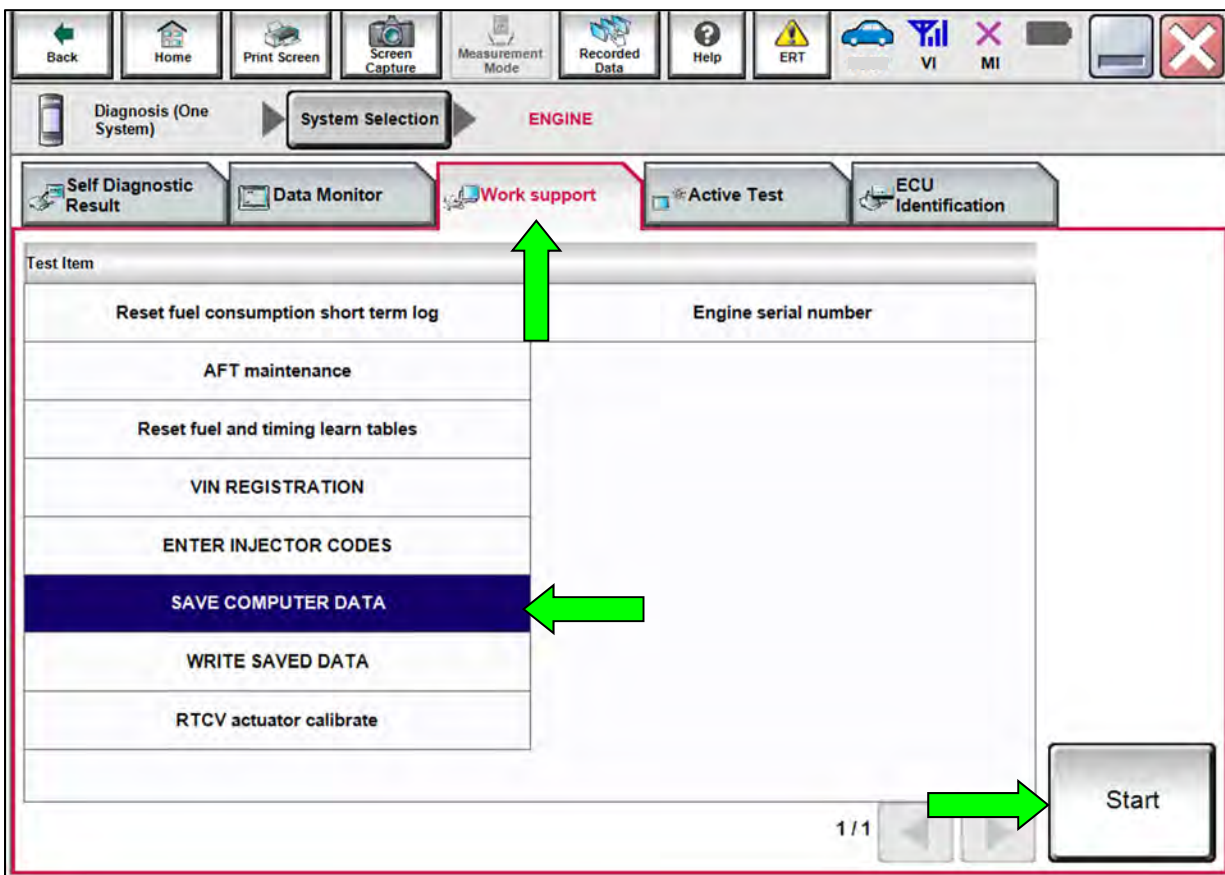

Figure 4
9. Navigate C-III plus to **ENGINE > Work support** (Figure 4).